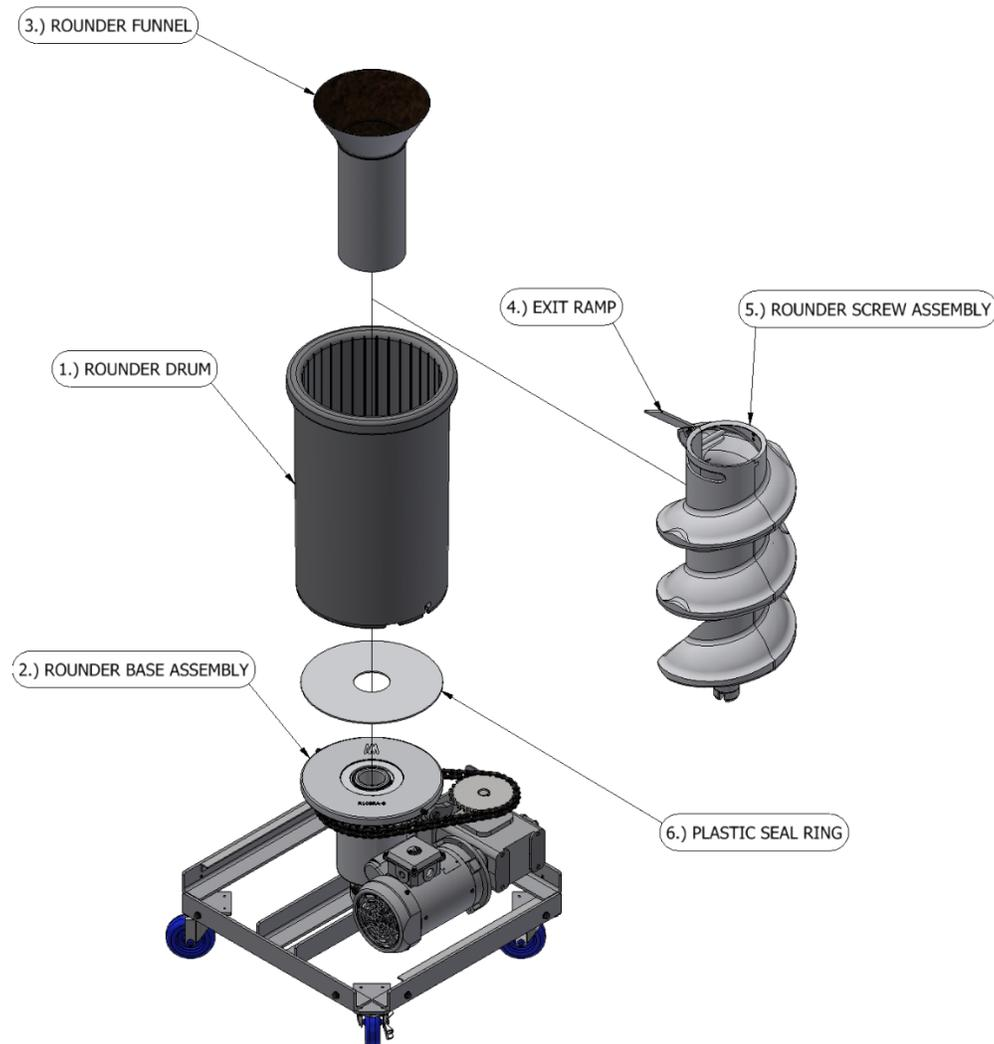

Figure 4: Overview
1. The Plastic Rounder Drum (Figure 4, Item 1) is the large gray drum that rotates counterclockwise while the machine is in operation. This drum is vital in providing the motion to round the dough ball.
2. The Rounder Base Assembly (Figure 4, Item 2) is the rotating assembly driven by the motor. The drum and the Plastic Seal Ring (Figure 4, Item 6) sit on top of the rounder base where the pins on the rounder base insert into the hook cutouts on the bottom of the Rounder Drum. The drum locks into place by turning it in a clockwise motion.
3. The Rounder Funnel (Figure 4, Item 3), which sits atop the Rounder Screw and Rounder Drum, allows the dough ball to drop easily to the bottom of the Rounder Screw (Item 5).
4. The exit ramp (Figure 4, Item 4), which bolts to the top of the Rounder Screw Assembly, assists with guiding the dough ball out of the top of the Rounder Screw.
5. The Rounder Screw Assembly (Figure 4, Item 5) is the screw or auger looking component which provides the path for the dough ball to travel back up. There is an opening at the top where the funnel sits, allowing the dough ball to drop to the bottom. It is then carried back up the outer surfaces to the top by the movement of the Rounder Drum. This movement allows for the rounding of the dough ball.